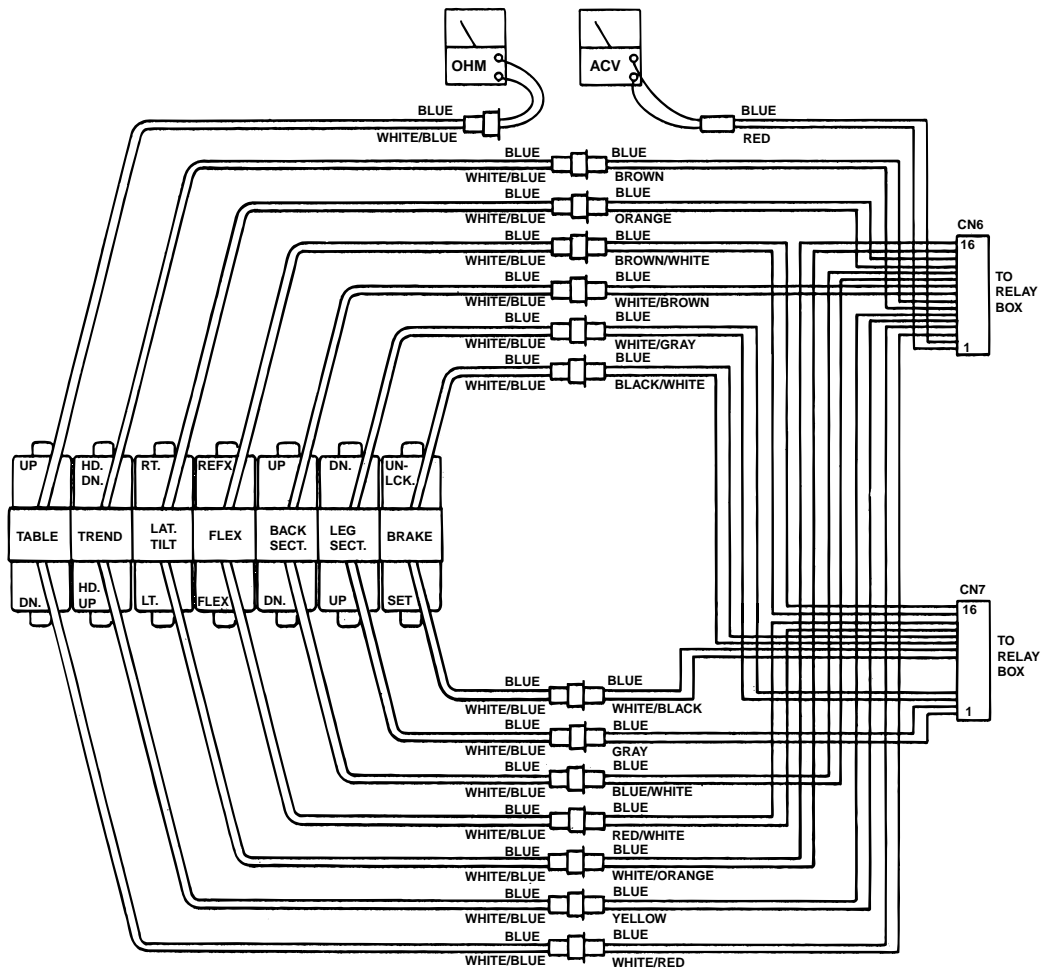

Figure 6-24. Solenoid Test
2. Disconnect the 2 pin connector from the solenoid in question, all other connectors should be connected. See figure 6-24.